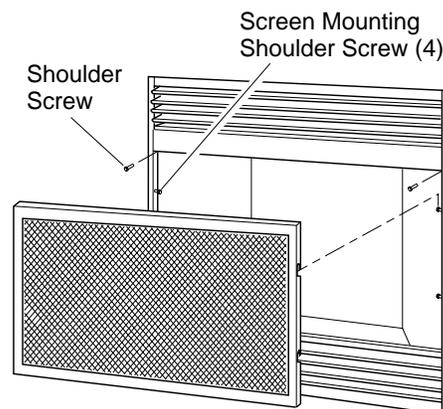

Figure 5 - Removing Screws and Screen
1. Using a 5/16" nut driver, remove two shoulder screws and screen (see Figure 5). Remove 5/16" screen mounting shoulder screws (do not discard).